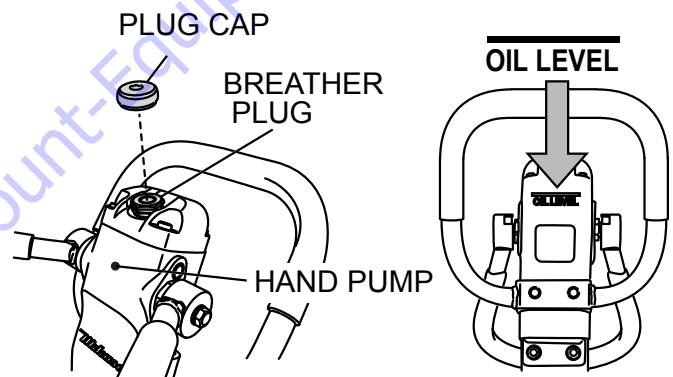

Figure 28. Removing Plug/Breather Cap
1. With the handle in vertical position, remove the plug cap from the hydraulic pump (Figure 28).
6. Pour hydraulic oil (300 cc) to the hydraulic pump breather plug attachment hole (Figure 28).